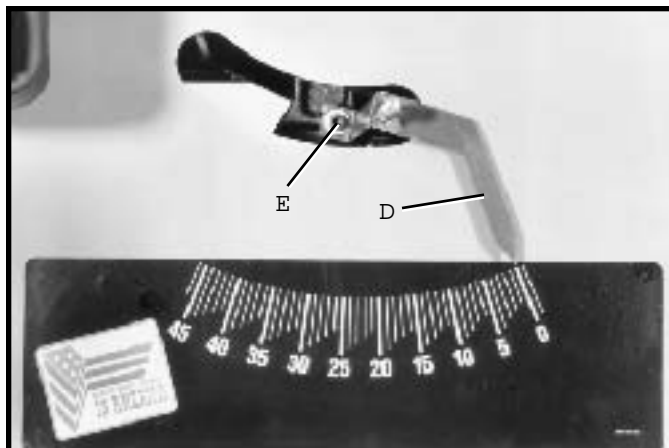

Fig. 82
6. Adjust the pointer (D) Fig. 82, to point to the zero degree mark on the scale by loosening screw (E), adjusting pointer (D), and tightening screw (E).
8. If the blade is not at 45 degrees to the table, loosen set screw (F) Fig. 82, and turn blade tilting handwheel until you are certain the blade is 45 degrees to the table. Turn set screw (F) clockwise until it bottoms.